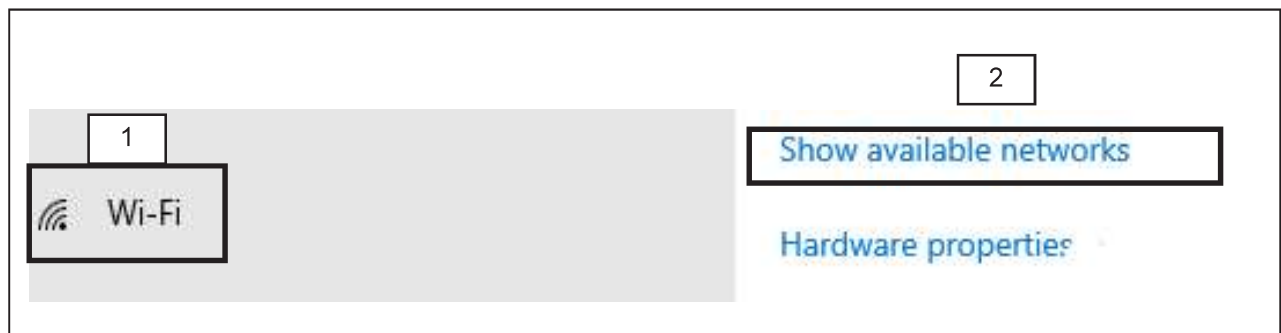

Figure 5 - WiFi Menu and Available Network
- 1.10. Click on **WiFi** (1) and select **Show available Networks** (2). See Figure 5.